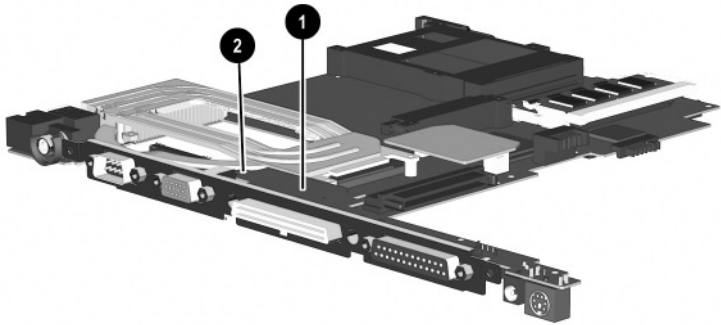

Figure 5-28. Proper Handling of the I/O Interface Board on an Evo Notebook N600c
Figure 5-28 applies only to Evo Notebook N600c models. When handling the system board, be careful not to put stress on the I/O interface board ❶. The narrow profile of this board makes it susceptible to being damaged when mishandled. Do not remove the screw ❷ that secures the I/O interface board to the system board or attempt to remove the I/O interface board. The I/O board should only be removed and handled using the Media Bay connector, as illustrated in Figure 5-27.